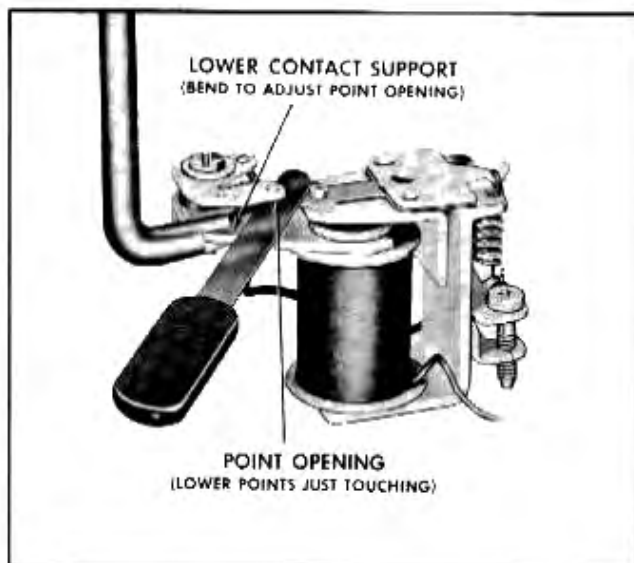

Fig. 12-34 Dual Contact Voltage Regulator Point Opening and Adjustment
1. Push armature down until the lower set of contacts are just touching, measure point opening between upper set of contacts (Fig. 12-34). Point opening should be .016".